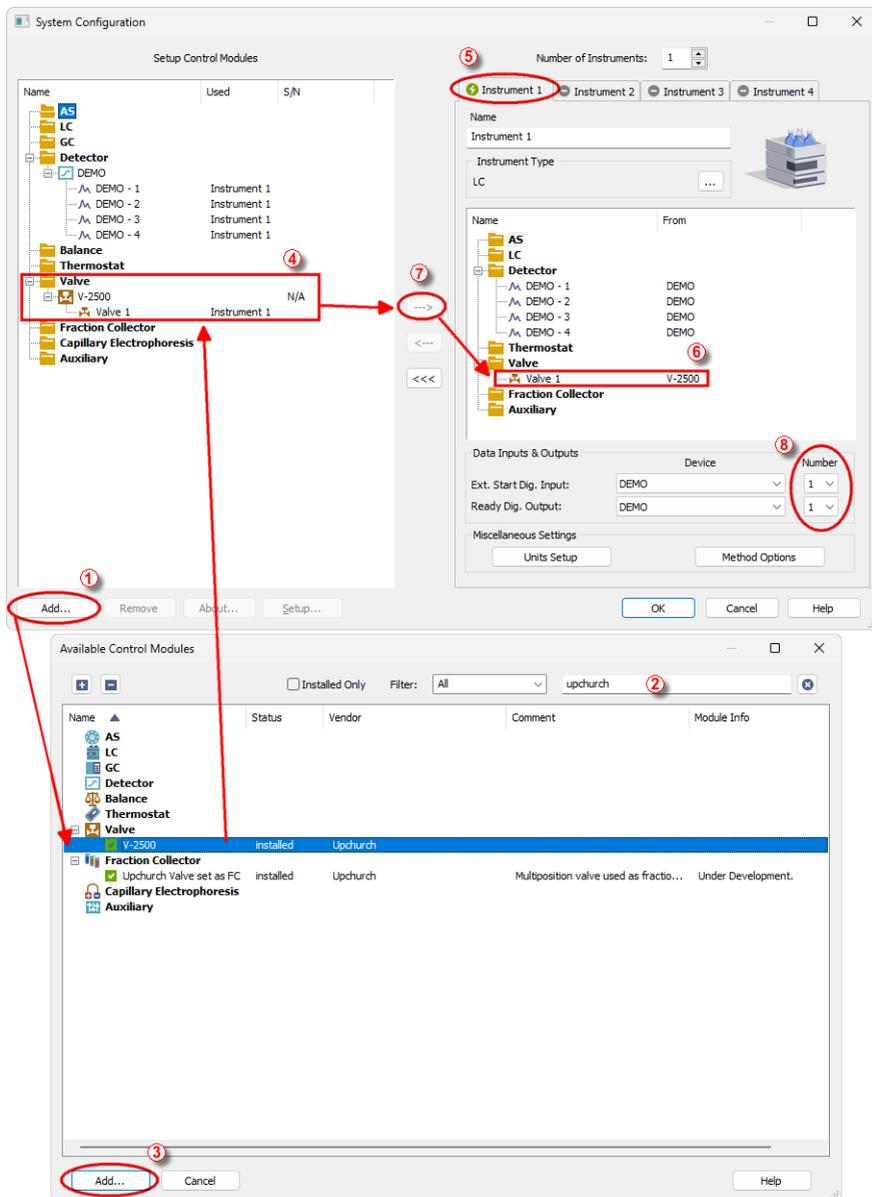

Fig. 2: System Configuration
- Press the *Add* button ① (see **Fig. 2** on pg. 4.) to invoke the *Available Control Modules* dialog.
- You can specify the searching filter ② to simplify the finding of the driver.
- Select the **V-2500** item and press the *Add* ③ button.